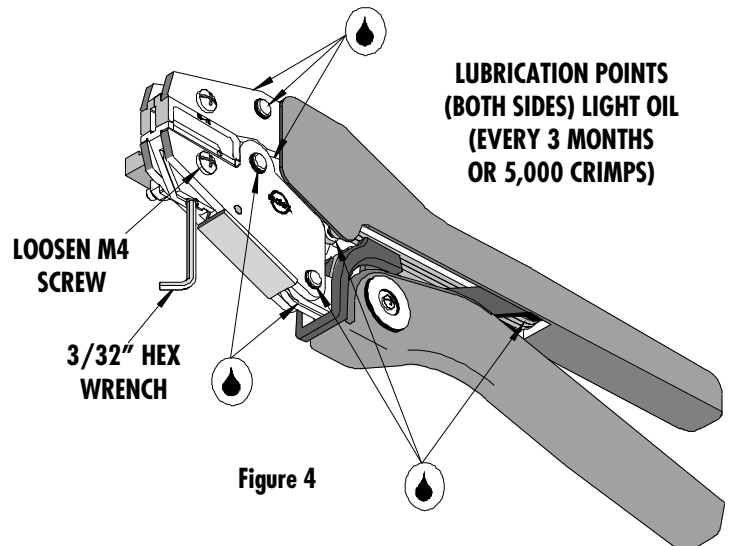

Figure 4
6. If the insulation part of the crimp needs to be adjusted, first loosen the M4 screw on the bottom tool jaw, then insert a 3/32 hex wrench (supplied) into the bottom of the lower die (See Figure 4). A clockwise (CW) rotation decreases insulation crimp while a counter-clockwise (CCW) rotation increases insulation crimp. After adjusting retighten the M4 screw.
3. Make certain all pin, pivot points and bearing surfaces are protected with a thin coat of high quality machine oil. Do not oil excessively. The 64001-4900 (RHT-2251-CC) was engineered for durability, but like any fine piece of equipment it needs cleaning and lubrication for a maximum service life of trouble-free crimping. A light oil, such as 30 weight automotive oil used at the oil points shown in Figure 4, every 5,000 crimps or 3 months will significantly enhance the tool life and ensure a stable calibration.